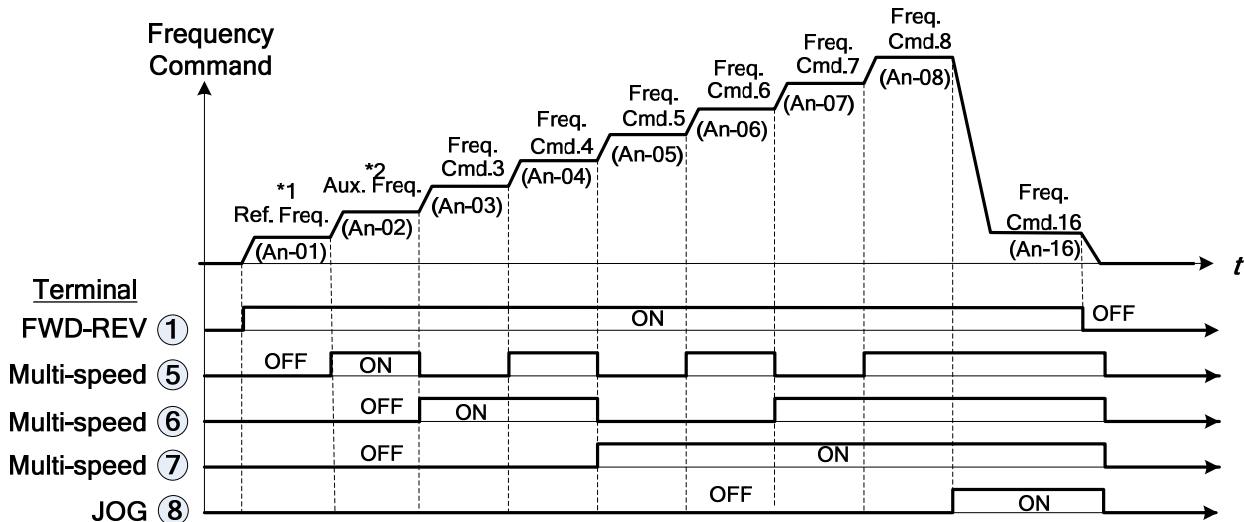

Fig. 9.2.3.12 Timing Chart for Multi-Step Speed and Jog Command
- The example shown in Fig. 9.2.3.12 below shows the operation sequence of a multi-step speed and jog command.